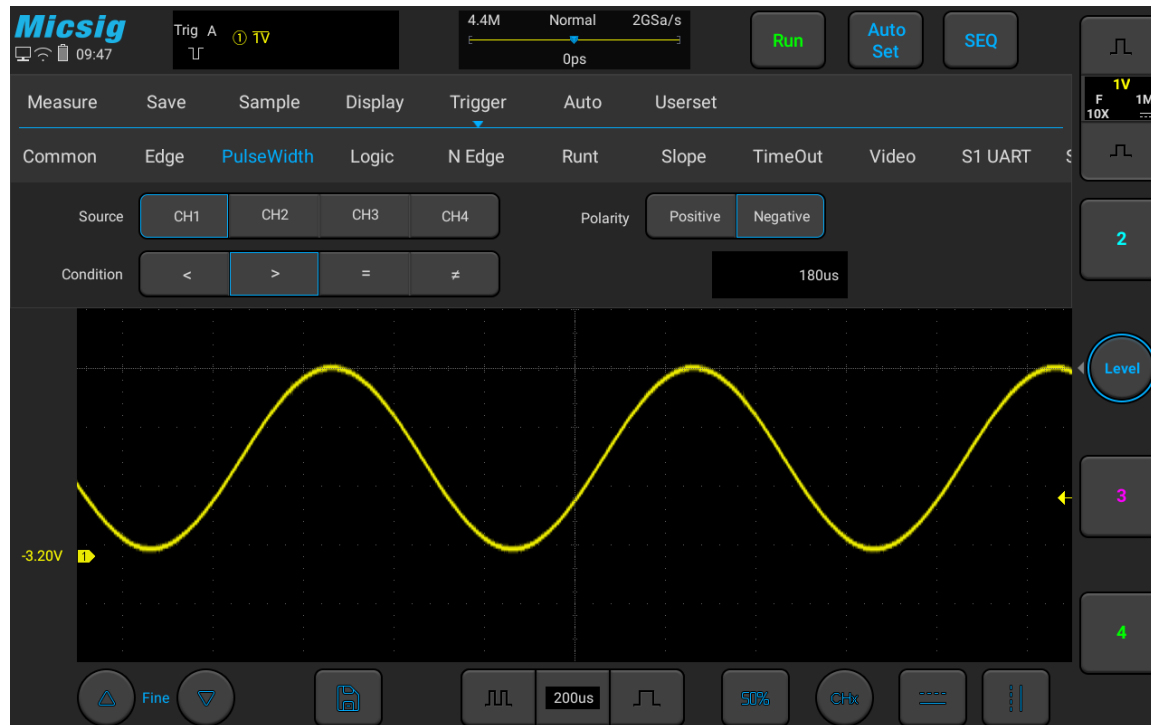

Figure 5-15 Negative Polarity Pulse Level Flip
lower than current trigger level (CH1 negative pulse indication icon $\text{⏏} \text{① } 1.00\text{V}$). When triggered on positive polarity pulse, if the restrictions are true, the trigger will happen on the high-to-low transition of the pulse; when triggered on negative polarity pulse, if the restrictions are true, the trigger will happen on the low-to-high transition. (Figure 5-15 Negative Pulse Level Flip)